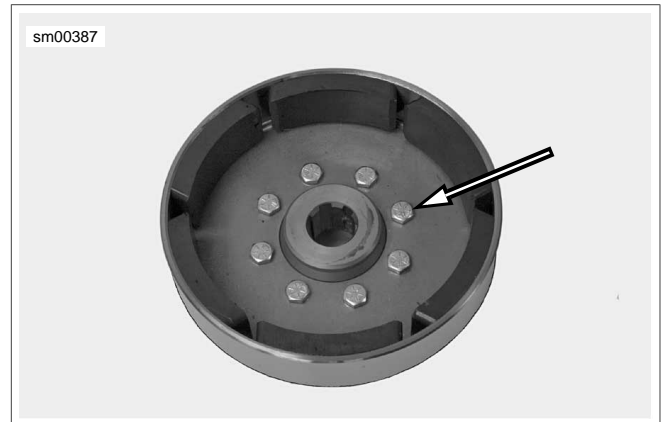

Figure 6-28. Rotor Assembly
1. See Figure 6-28. Remove the eight fasteners which secure alternator rotor to engine sprocket.